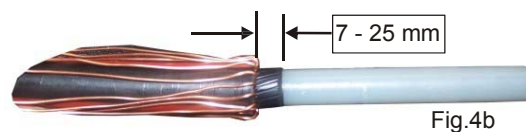

Fig.4b
- If additional screen must be removed, the IT-1000-017-20 tool has the ability to shave semi-con to within 7mm of the stripped cable oversheath by using the reversing feature. (Fig.4b)